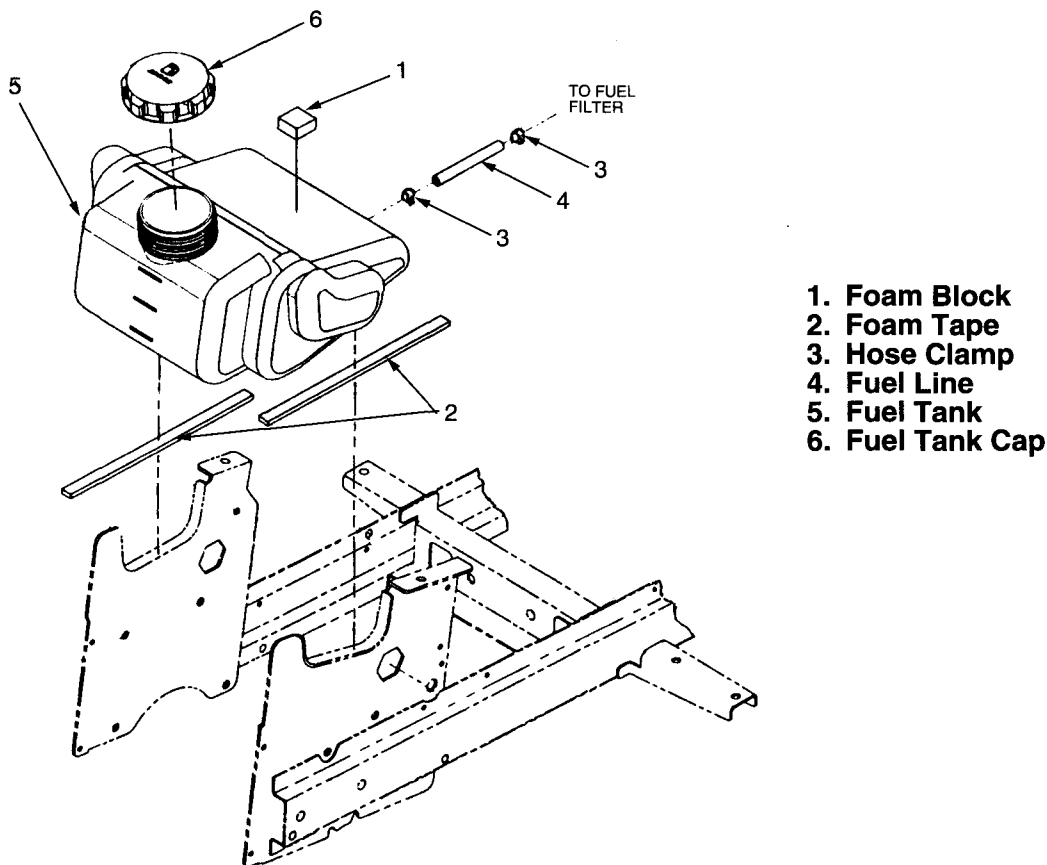

Figure 5-21. Fuel Tank (All Models).
5. Disconnect the fuel line (4, Fig. 5-21) at the engine fuel filter (not shown) by removing the hose clamp (3). Drain all fuel from the tank.
6. Remove the hose clamp (3) to disconnect the fuel line (4) from the fuel tank (5), then lift the fuel tank from the tractor.